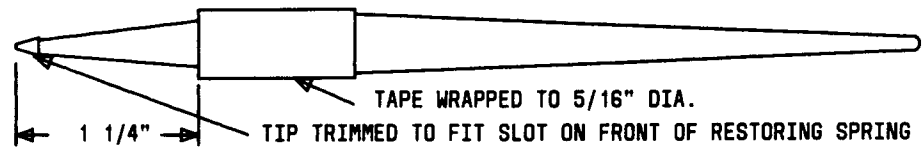
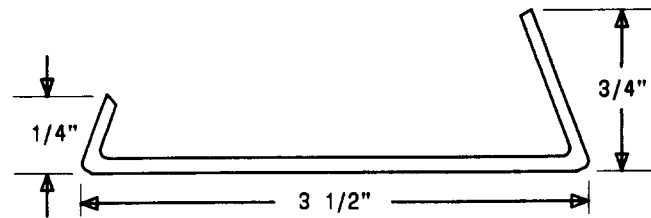

Fig. 2.1—KS-6320, L1, Orange Stick With Tip Trimmed
Fig. 2.2—Wire Hook
- (a) To change subparagraph 4.11(2) and to add subparagraphs 4.11(3) through (10)
- (b) To add two figures (Fig. 2.1 and 2.2).
- (2) Wrap a KS-6320, L1, orange stick with tape to a diameter of 5/16 inch. (See Fig. 2.1.)
- (3) Trim the end of the KS-6320, L1, orange stick to fit into the slot at the front of the restoring spring. (See Fig. 2.1.)
- (4) Obtain a piece of stiff wire (such as a paper clip) approximately 4-1/2 inches long.
- (5) At one end of the wire, make a bend approximately 1/4 inch from the end at an 80° angle. (See Fig. 2.2.)
- (6) At the opposite end of the wire, make a bend approximately 3/4 inch from the end at an 80° angle. (See Fig. 2.2.)
- (7) Hold the KS-6320, L1, orange stick between the index finger and the second finger and insert the trimmed end of the stick into the front slot of the restoring spring.
- (8) Attach the 1/4-inch long wire hook to the rear tab of the restoring spring.
- (9) Place the center tab of the restoring spring in the associated square hole of the vertical unit base with the front portion of the spring resting on the plastic operating stud of the vertical unit armature.
- (10) Slowly remove the KS-6320, L1, orange stick and wire hook, allowing the rear tab of the spring to snap into its associated slot.